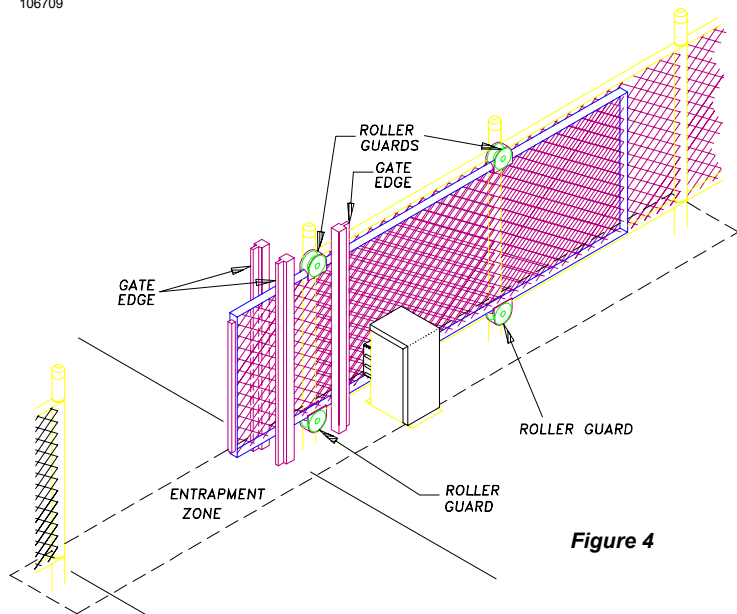

Figure 4
- CANTILEVERED ROLLER GATES WITH OPEN ROLLERS HAVE THE POTENTIAL HAZARD OF HANDS AND FINGERS BEING PINCHED between the open roller and the pole that the roller rides upon. **PROTECT THIS "PINCH POINT" SO THIS HAZARD IS AVERTED.** See Figure 4.
- CONSIDER ALL OTHER "PINCH POINTS" IN YOUR DESIGN of the gate system, such as the "pocket" of a sliding gate. Use protective measures to reduce hazards at these locations. See Figure 4.
- IDENTIFY THE ENTRAPMENT ZONES AND PINCH POINT AREAS PER FIGURE 4. Design the gate installation to minimize the risk of entrapment in these areas. Install additional safety equipment such as four wire edges and photocells to further minimize risk. All entrapment zones are required to be protected.